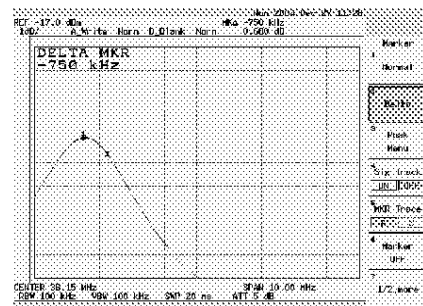

Fig. 2
- Calibrate C17 and L5 to tune the cell of D.P. to the frequency of the audio carrier subtracting about 750kHz (Fig.2) with JP3 on and JP4 and JP5 off.